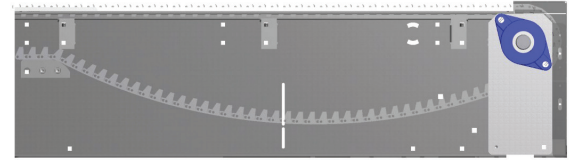

Figure 2
- *Catenary length* - (See Figure 2)